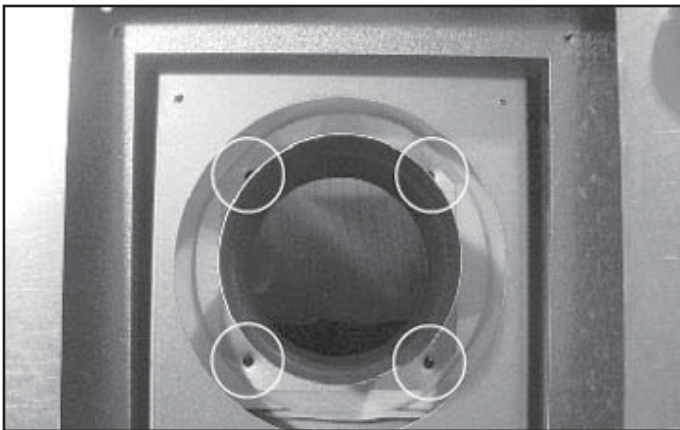

Figure 9.6 Remove Four Inner Collar Screws
- Remove four screws holding inner collar to appliance top. See Figure 9.6. Remove inner collar.